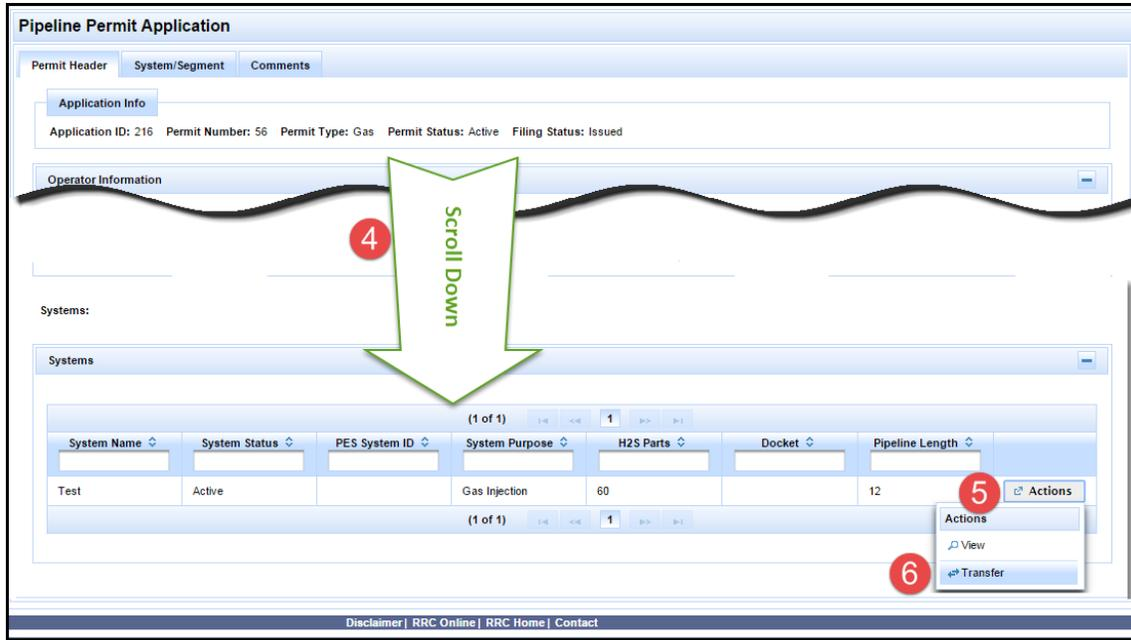

Figure 63: Transfer a System, Steps 4 to 6
4. Scroll down to the Systems section at the bottom of the Permit Header tab, as depicted in Figure 63.